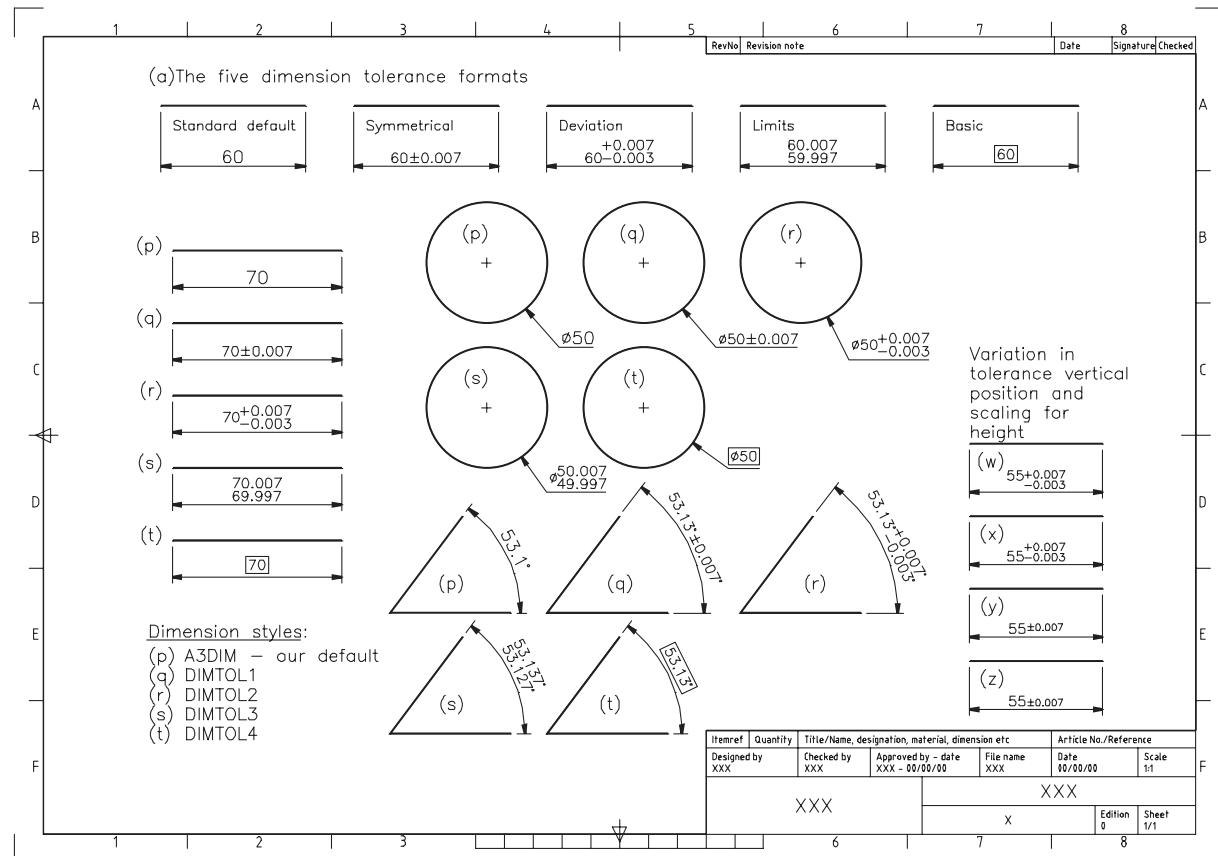

Figure 25.1 Dimension tolerance exercise.
- 3 Figure 25.1(a) displays these formats along with the standard default dimension type i.e. no tolerances displayed.
- 1 Open your A3PAPER standard sheet and refer to Figure 25.1.
- 3 Dimension one set of objects with your standard A3DIM dimension style setting – Figure 25.1(p).
- b) The effect is displayed in Figure 25.1 with:
- Figure 25.1(q): style DIMTOL1
- Figure 25.1(r): style DIMTOL2
- Figure 25.1(s): style DIMTOL3
- Figure 25.1(t): style DIMTOL4
- 4 Task: Investigate the vertical position and the scaling for height options available in the Tolerances tab dialogue box. Figure 25.1 displays the following:
- 3 Make A3DIM the current dimension style and note the dimensions which used this style – the Figure 25.1(p) dimensions in Figure 25.1